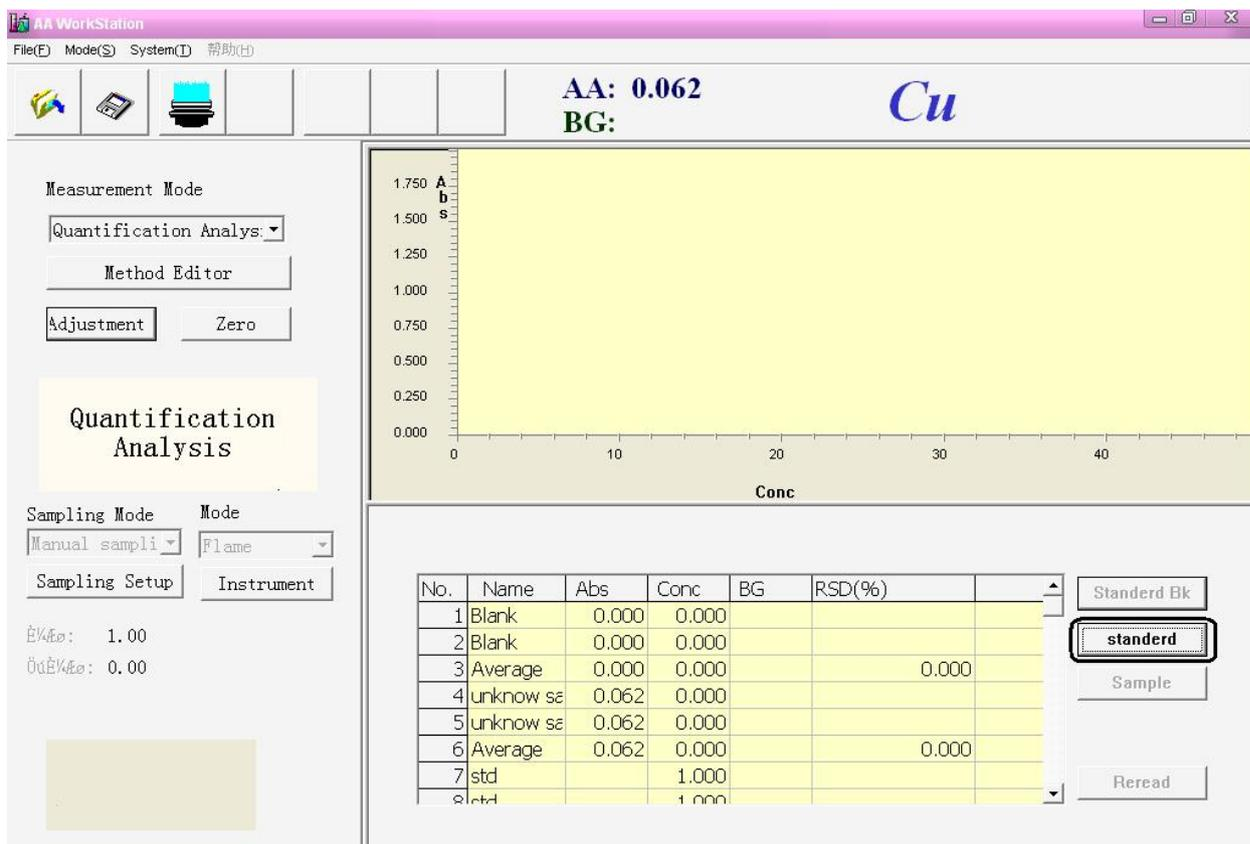

Figure 5-27
12. Spurt and absorb the unknown sample again,press 【unknown sam.】 ,display the figure 5-27